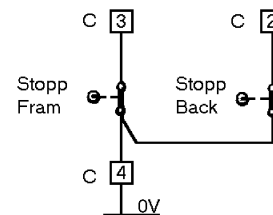

Fig 12
- Stop switch for travel movement (left or right), see fig 12 on page 11.